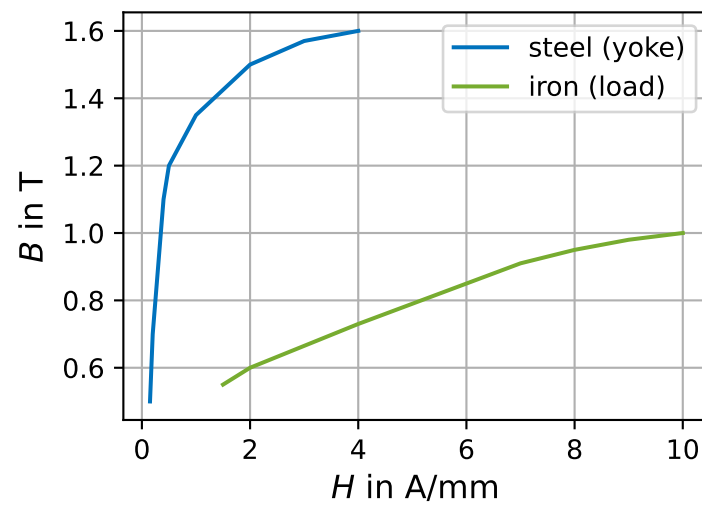

Figure 2: Magnetization curves for the yoke (steel) and the load (iron).
1.4 How large is the necessary current I for both coils to achieve this lifting task? Use the magnetization curves in Fig. 2. [3 Points]